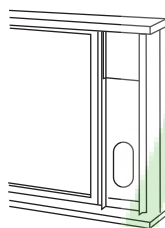

Fig.14
3. Trim another foam seal (with adhesive) to the proper length and attach it to the open side of slider kit (Fig.14).